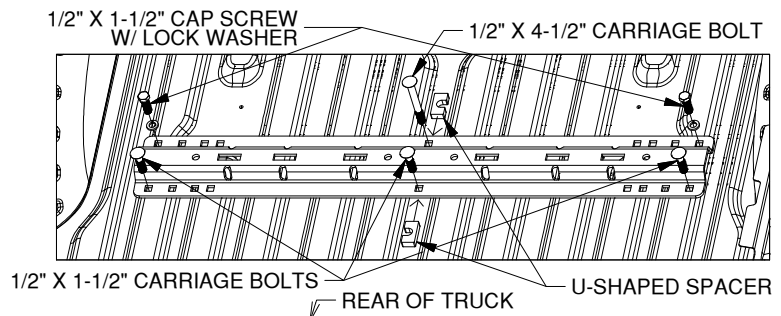
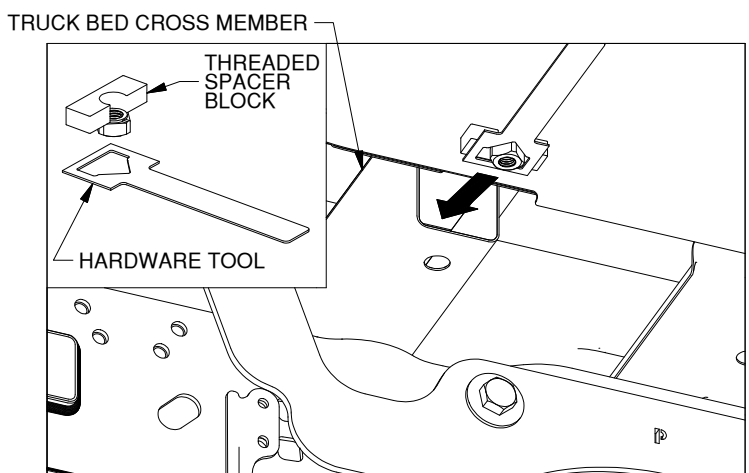

Figure D1: View looking into truck bed from rear of truck.
Figure D2: Hardware tool and threaded spacer block. **PAGE 3 of 4**
4. **Enlarge the holes.** Using the 1/8" holes as pilots, drill out each hole with a 9/16" bit. The center forward drill location on the rear rail is directly above a bed crossmember. This hole location will receive a 1/2" X 4-1/2" carriage bolt, see Figure D1. The drill must pass through both the bed and the crossmember, at this location, and should be as straight as possible when drilled. Enlarge this hole to 7/8" in the bed only.
1. **Install the rear mounting rail.** The rear mounting rail requires three different fasteners, as shown in Figure D1. Start by placing the tube spacer into the 7/8" drilled hole in the bed, then re-position the rear mounting rail over the drilled 9/16" holes.
2. **Install the 1/2" cap screws (two places).** Locate two 1/2" x 1-1/2" cap screws, 1/2" lock washers, threaded spacer blocks and the hardware tool. Use the hardware tool to hold the threaded spacer block and insert the threaded spacer block into the bed cross member below the drilled 9/16" hole, see Figure D2. From the top of the bed, place a 1/2" cap screw and 1/2" lock washer into the mounting rail and through the bed, as shown in Figure D1. Thread the cap screw into the threaded spacer block until the block is firmly against the bottom of the bed. Ensure that the spacer block is in line with the corrugations of the bed and will not deform the bed when tightened. The hardware tool can be bent if needed to aid in positioning the threaded spacer block. Repeat the process on both sides of the truck.